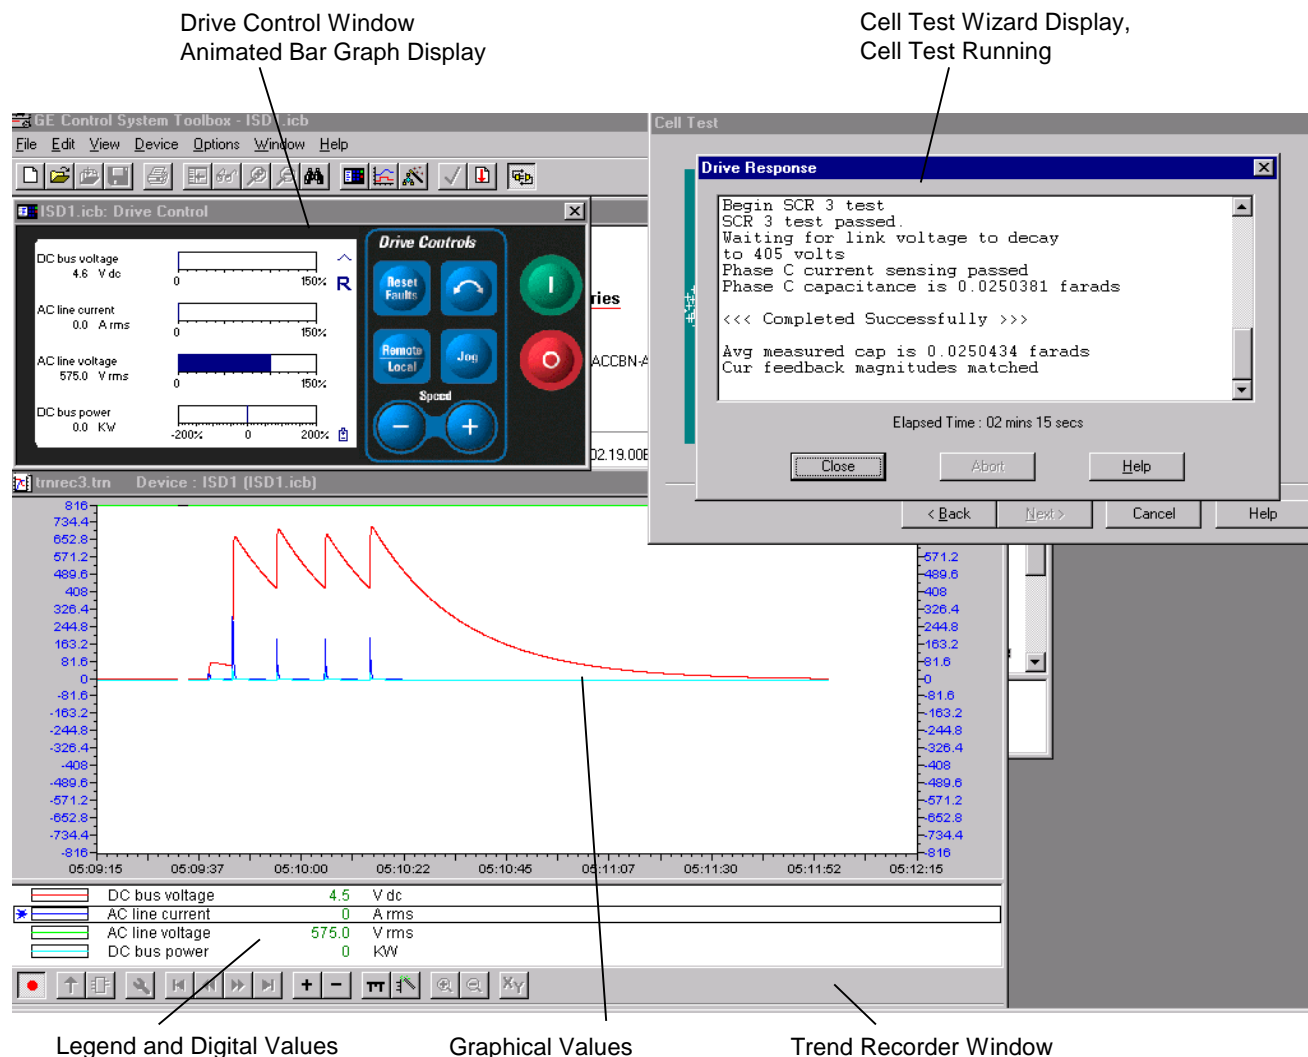

Figure 6-6. Sample Toolbox Display of Trend Recorder, and Drive Control Windows While Running Cell Test Wizard
3. Turn the Trend Recorder on by selecting the **Record** button , then run the Cell Test wizard, observing the display (refer to Figure 6-6).